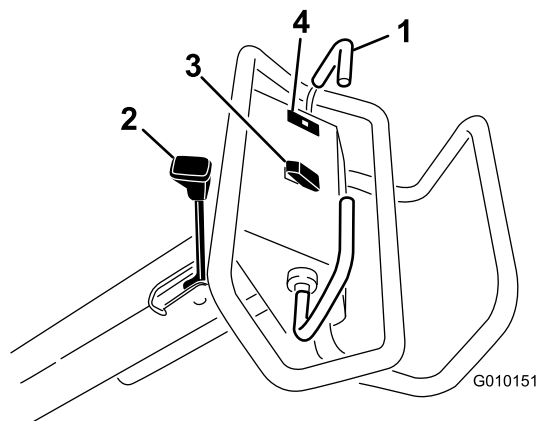

Figure 13
To move forward, move the traction bail forward. To move rearward, move the traction bail rearward (Figure 13).
- To engage the parking brake, move the parking-brake lever toward the operator handle (Figure 13).
The oil-pressure warning light (Figure 13) illuminates when the engine-oil pressure drops below a safe level. If low oil pressure ever occurs, shut off the engine and determine the cause. Repair the damage before starting the engine again.
Raise—Press the top of the switch (Figure 13) to raise the coring head and disengage the coring head. The engine must be running to generate lift pressure. If the coring head is below the transport height, refer to Resetting the System Control Circuit (page 26).
Lower/Engage—Press the bottom of the switch (Figure 13) to lower and engage the coring head. The traction bail must be in the forward position to activate the switch.